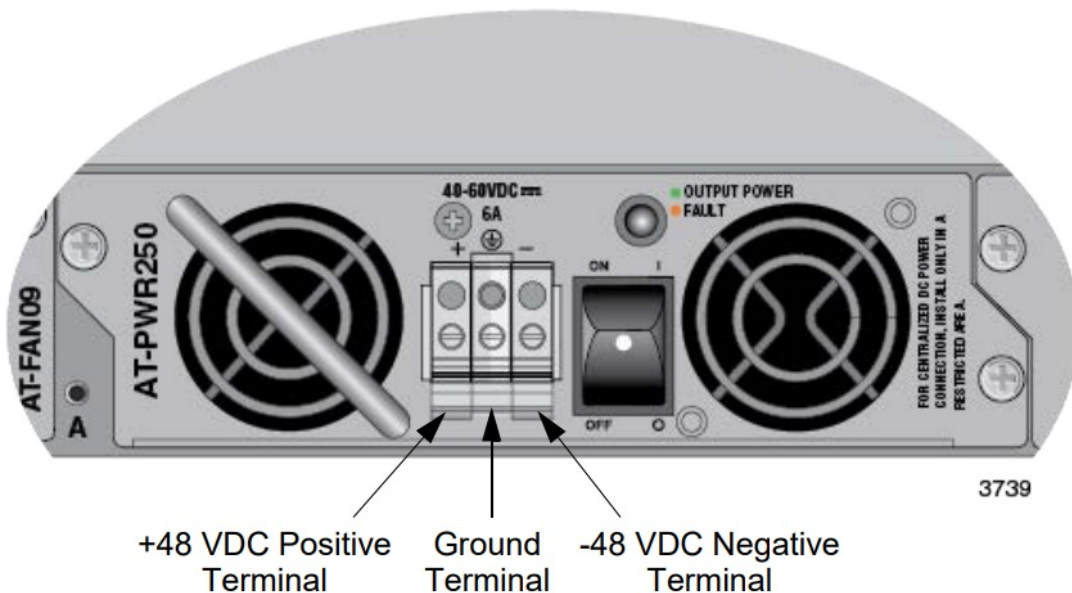

Figure 54. DC Terminal Block
3. Use the legend above the terminal block to identify the terminals. The terminals are positive, power supply ground and negative, from left to right, as shown in Figure 54.